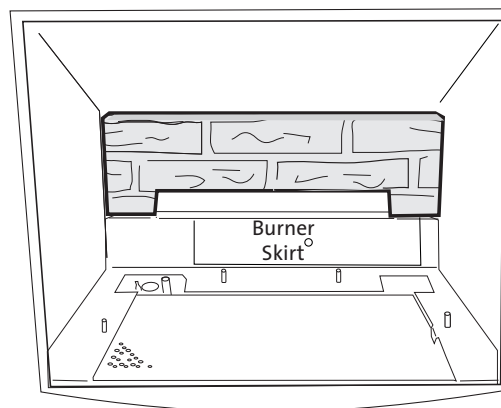

Figure 43. Install the Lower Rear Panel
5. Install the Lower Panel. Position it up against the back wall, resting on the Burner Skirt. Fig. 43.